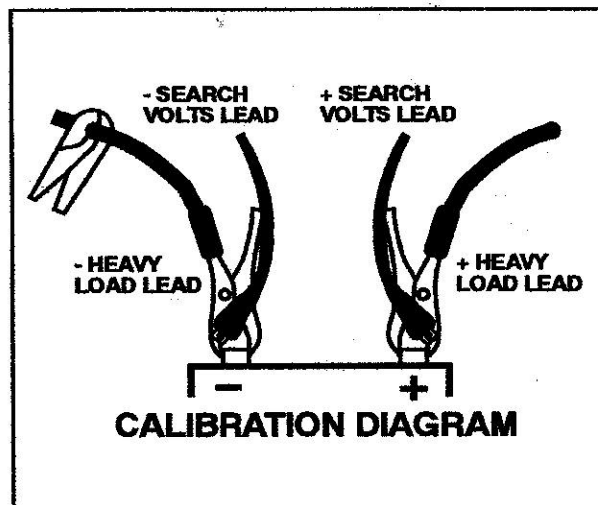

Figure 26
4. Connect the grey amp probe around the negative load lead cable. When the leads are connected as shown in Figure 26, press [CONTINUE].